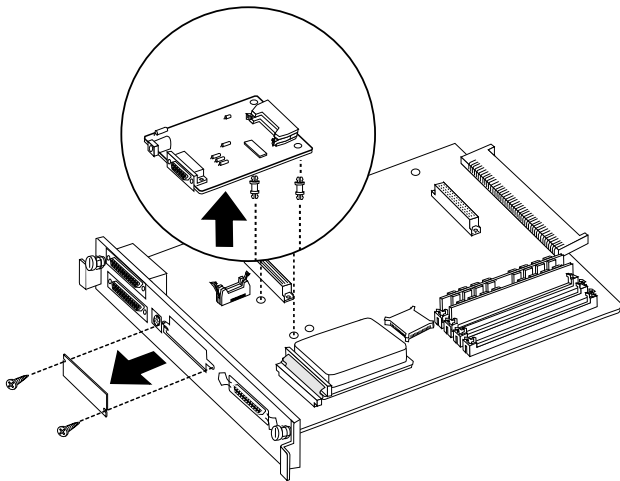

Fig. 8.21 *Remove the Network Interface Board*
- a. Using a Phillips screwdriver, remove the two screws from the interface plate (fig. 8.21).
- c. Remove the network interface card from its plastic support posts and put it aside (fig. 8.21).